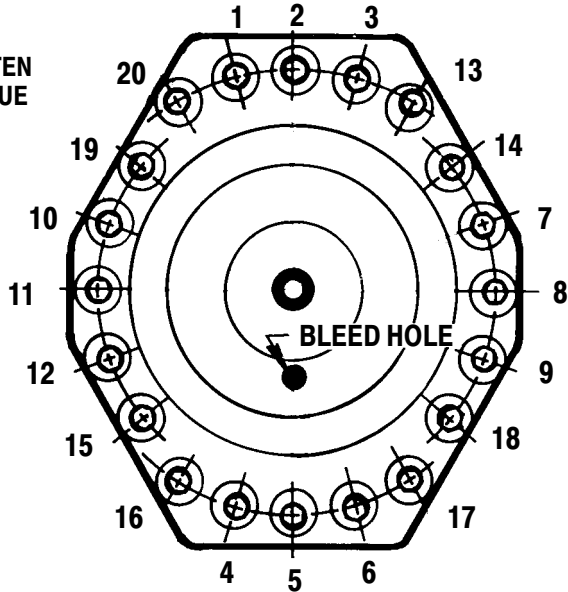

FIGURE 3
The twenty (2) screws on model 651707 and 651713, 651713-1 should all be torqued down evenly to 30 - 40 in-lbs (3.4 - 4.5 Nm). Refer to Figure 3 for proper sequence on tightening screws. Retorque screws in 24 hours.